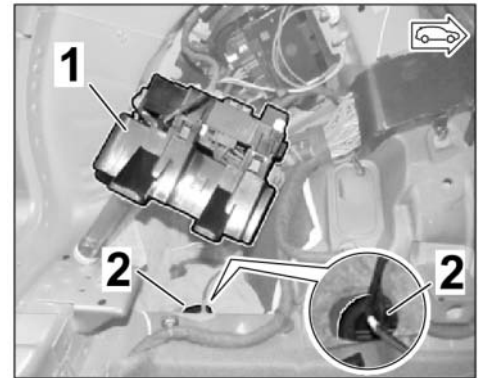

Figure 33
3.3.1 Loosen fuse box with holder in left rear boot and swivel it aside (⇒ *Figure 33*). ⇒ *Workshop Manual '978409 Loosening and securing fuse box in the boot'*